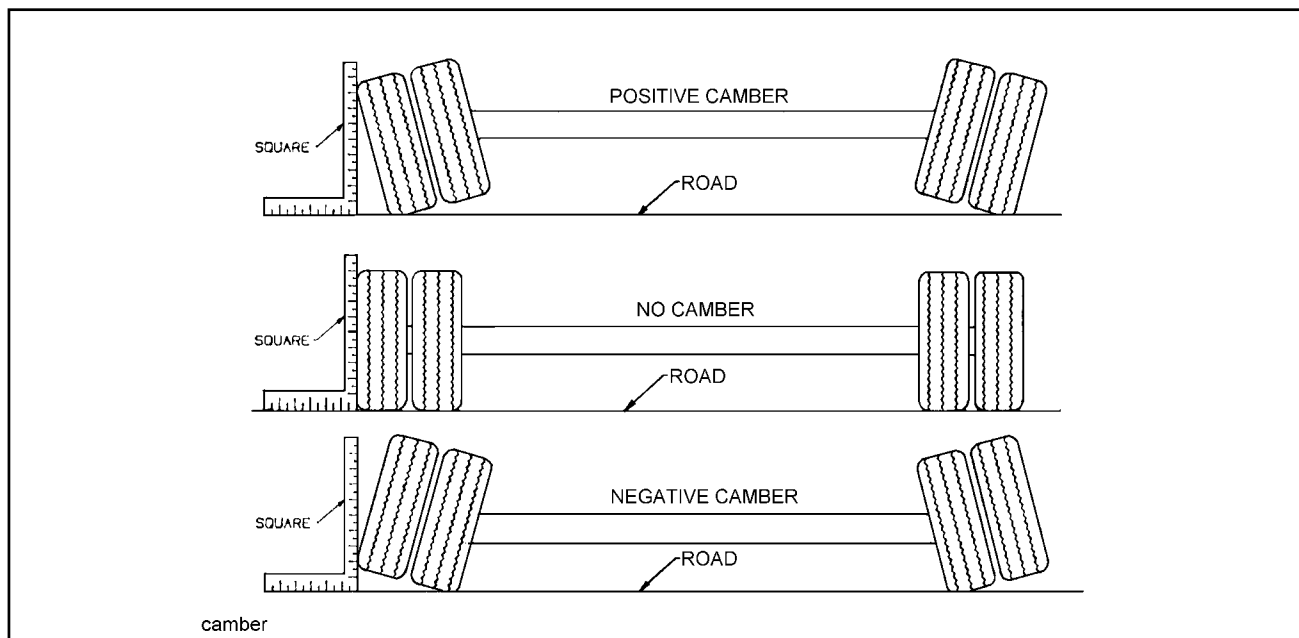

Figure 4-7 Examples of Camber
- d. Follow the same procedures as in Section 4-14.1 b and c, except place the axle gauge above and below the axle. If gauge point gap is found, the axle has positive or negative camber. The trailer axle has no camber from the factory, thus if it is found to have positive or negative camber, axle replacement is necessary (See Figure 4-7 for examples of camber).